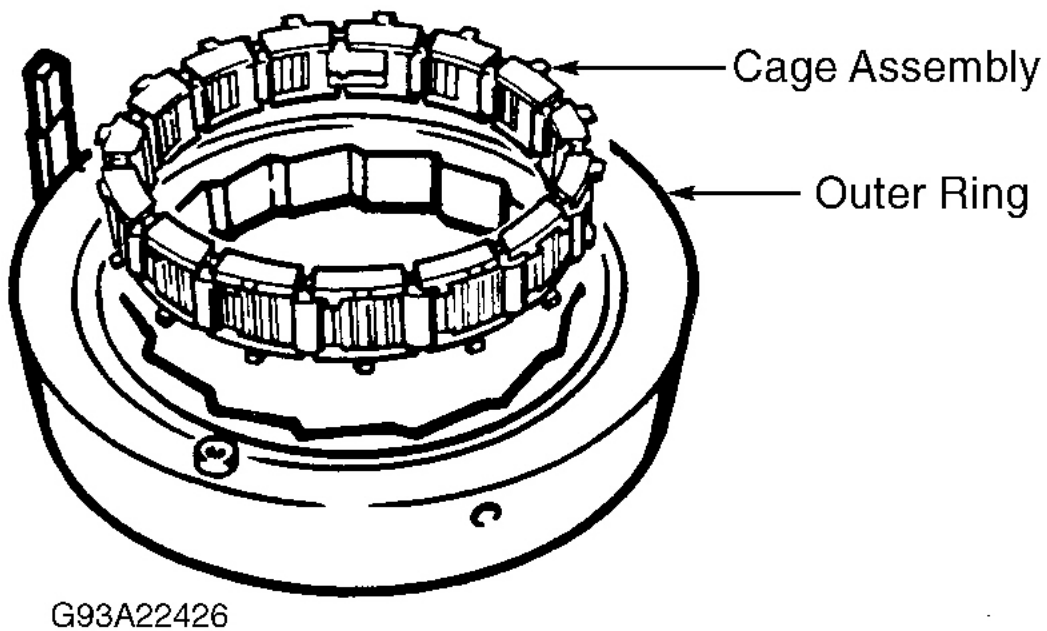
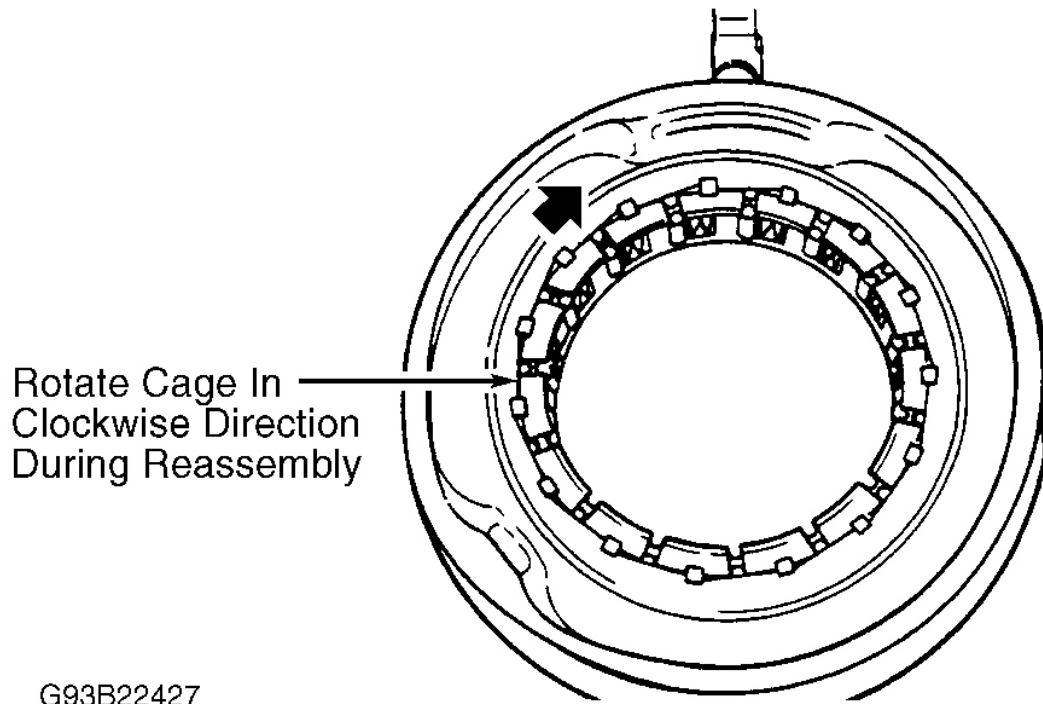
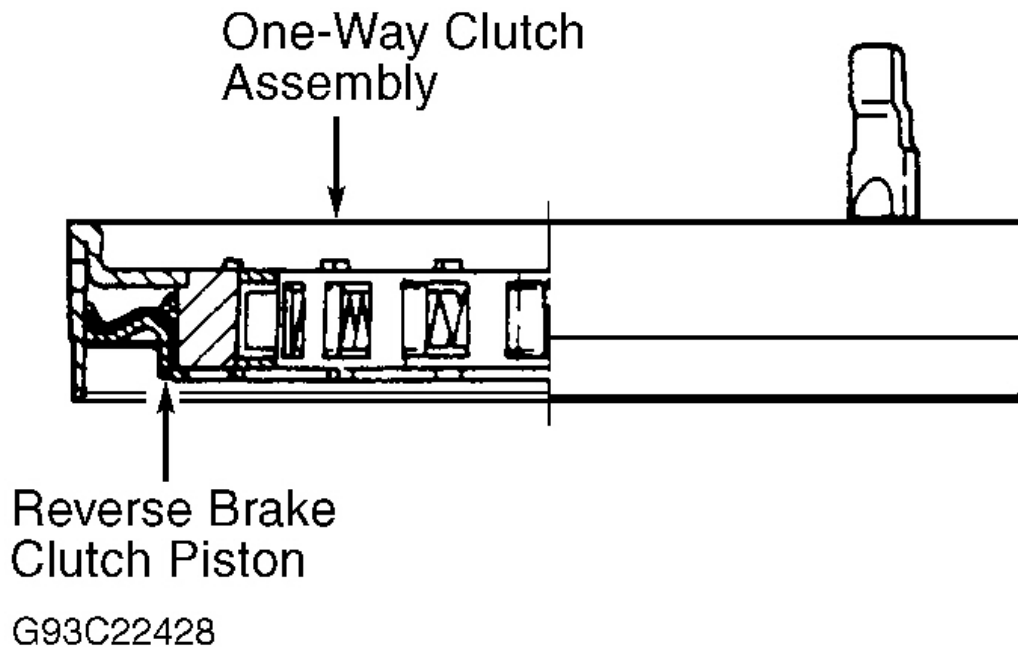

Fig. 36: Installing Cage Assembly Into Outer Ring
Fig. 37: Rotate Cage Clockwise Until Stop
Fig. 38: Installing Piston Into One-Way Clutch
2. Hold cage assembly with large lugs up. Install the cage assembly into outer ring. See **Fig. 36**. Turn the cage clockwise until lugs touch stop. See **Fig. 37**. Install the piston into the outer ring. See **Fig. 38**.